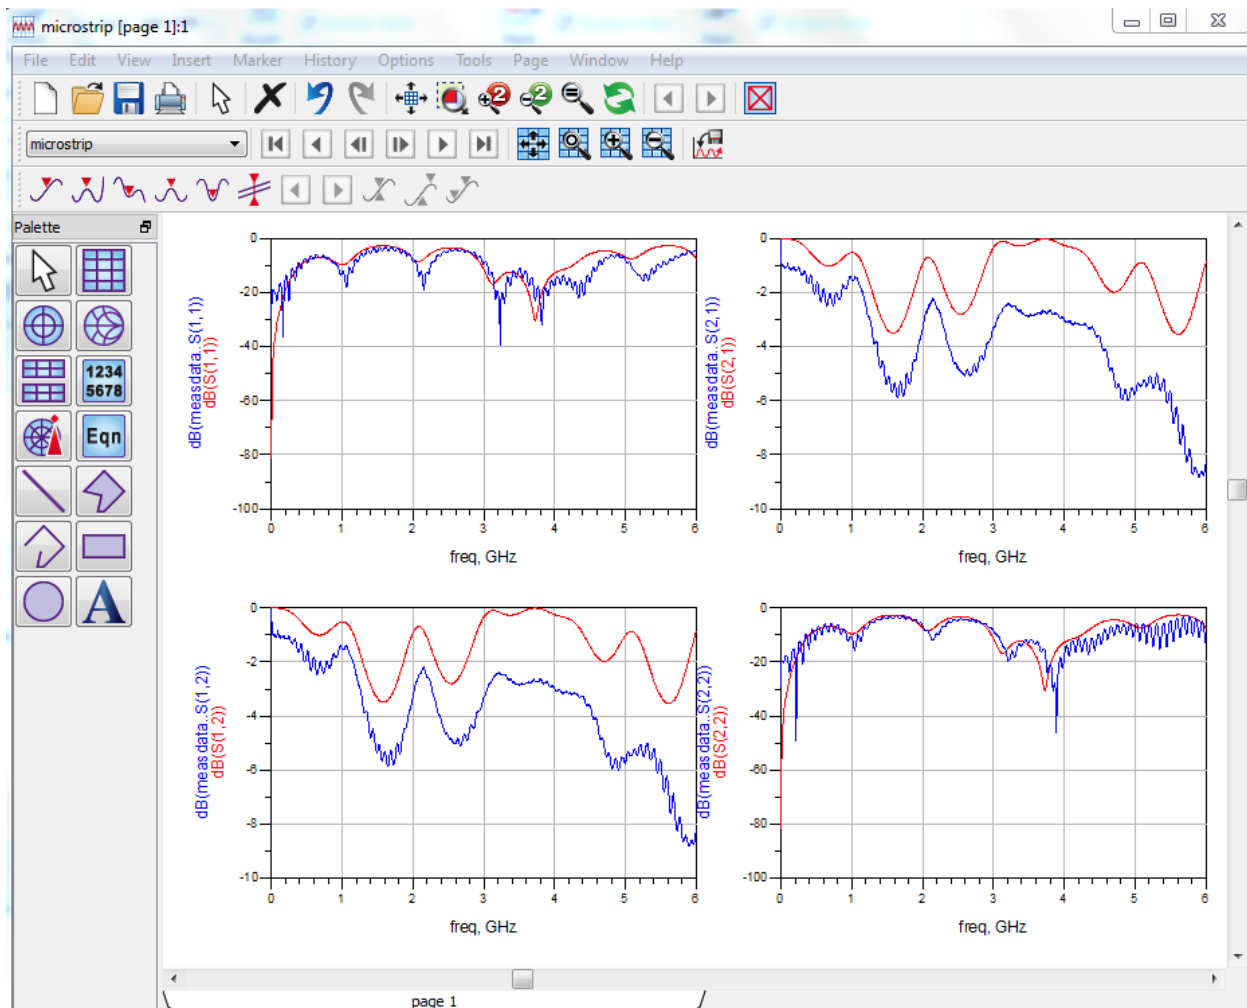

Figure 7: Data display comparing simulated data with measured data. The S_{11} and S_{22} match reasonably well, but the S_{21} and S_{12} do not match.
- 6) When the data display window pops up, use the datafile tool to import the “Touchstone” format file at V:\ece451\hw4.s2p. This is the actual measured data for the microstrip line we are simulating. Plot S_{11} , S_{21} , S_{12} , and S_{22} in dB for both datasets as shown in Figure 7.